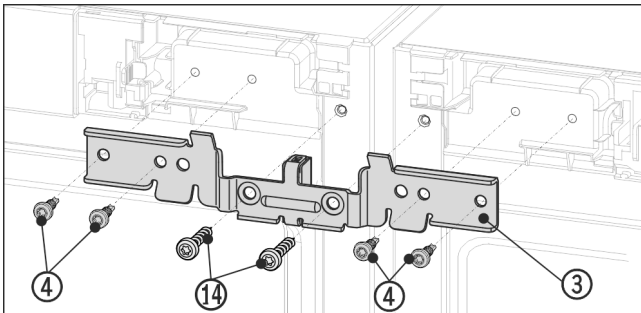

Fig. 12 Example illustration
- Slide the bracket Fig. 12 (3) with the spacer between the appliances onto the pins. Loosely screw on the bracket with four screws Fig. 12 (4) and the previously unscrewed grounding screws Fig. 12 (14) alternately on the right and left.